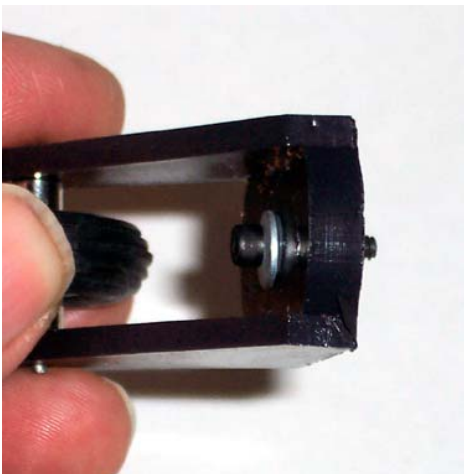

Figure 12.
Insert the assembly shown in Figure 11 into the Tail Wheel (5) as shown in Figure 12.